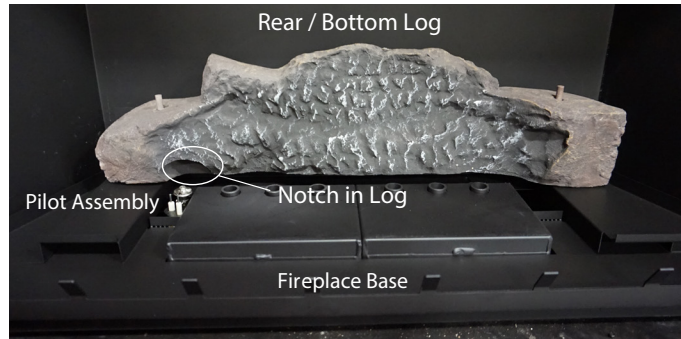

Figure 27. Placing Bottom Rear Log.
Step 2. Place the bottom Rear log as shown in figure 27.